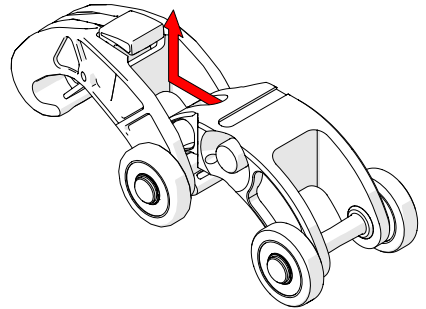

Fig. 44 - Slide Dovetail QuickLink forward and lift
2. While pressing the red button, slide the Dovetail QuickLink forward and up, clearing the hook of the Dovetail QuickLink from the 2nd QuickLink's axle (Fig. 44).